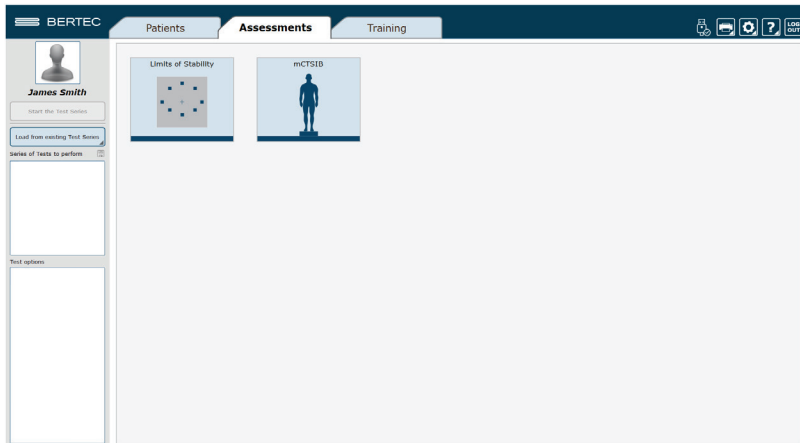

Figure 17: Assessments Tab
2. To perform new assessments, click the Assessments tab, shown in Figure 17, then drag and drop the desired assessment(s) into the Test Series List, located on the left.